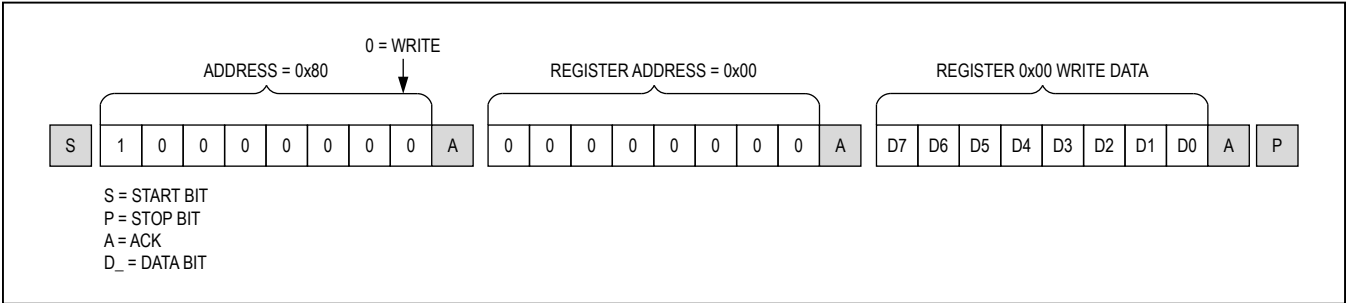
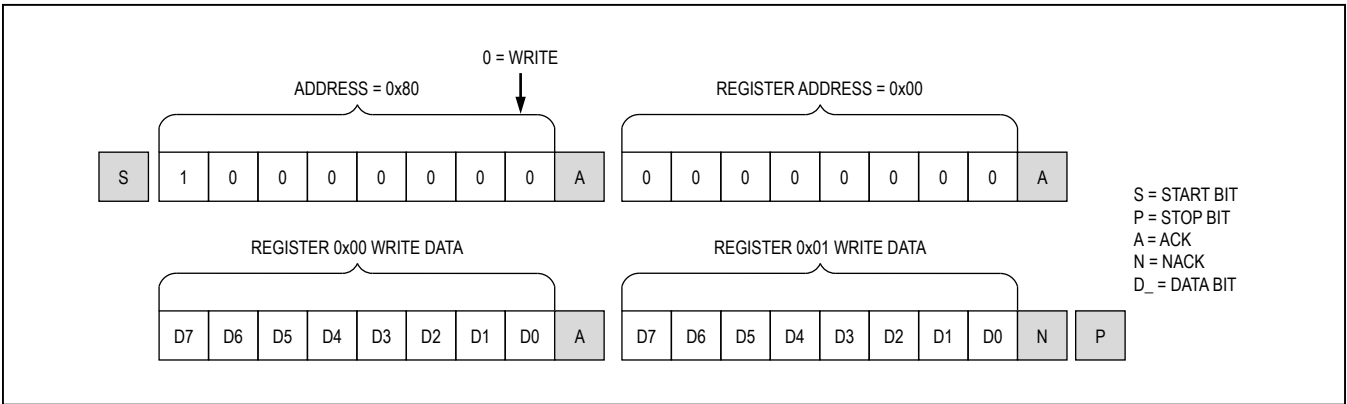

Figure 35. Format for I²C Write
Figure 36. Format for Write to Multiple Registers
Writes to the serializers comprise the transmission of the slave address with the R/\overline{W} bit set to zero, followed by at least one byte of information. The first byte of information is the register address or command byte. The register address determines which register of the device is to be written by the next byte, if received. If a STOP (P) condition is detected after the register address is received, the device takes no further action beyond storing the register address (Figure 35). Any bytes received after the register address are data bytes. The first data byte goes into the register selected by the register address, and subsequent data bytes go into subsequent registers (Figure 36). If multiple data bytes are transmitted before a STOP condition, these bytes are stored in subsequent registers because the register addresses autoincrements.